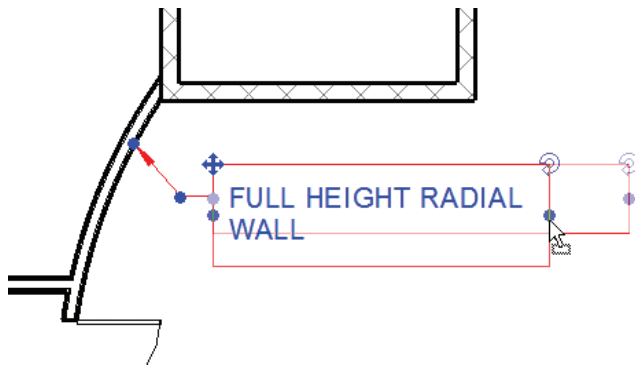

FIGURE 5.52 Wrapping the text using the right grip
3. Stretch the text window to the left until it forces the text to wrap, as shown in Figure 5.52.